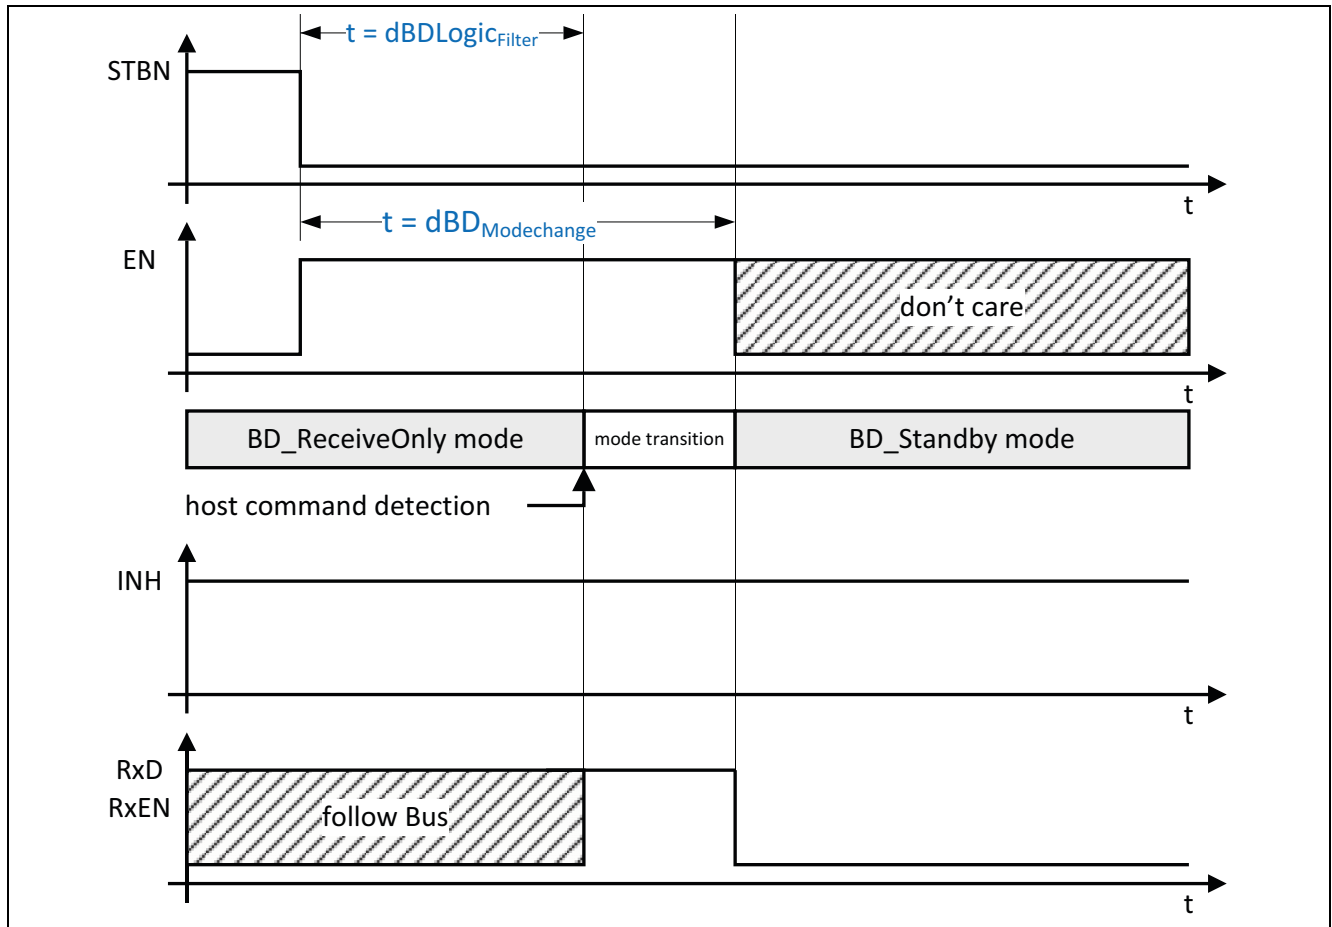

Figure 34 Changing over to BD\_Standby, with an active wake-up flag
- 10) The BD\_GoToSleep command cannot be executed while the wake-up flag is active (see Figure 34). The TLE9221SX changes over to BD\_Sleep mode.
Applying the BD\_GoToSleep host command to the TLE9221SX, while the wake-up flag is active, changes the operating mode directly to BD\_Standby mode. The RxD and RxEN outputs are set to “low” and indicate a previous wake-up event (see Figure 34 and Table 14).